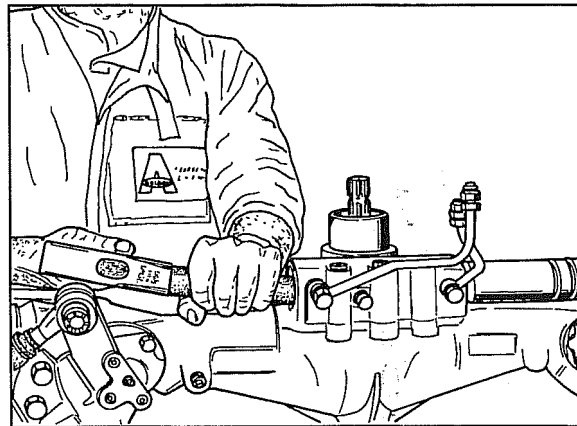

Fig. 79
15. Place a container to collect the oil underneath the axle and then remove the cylinder from the side from which you disconnected the ball joint. Follow the steps illustrated in Fig. 79.